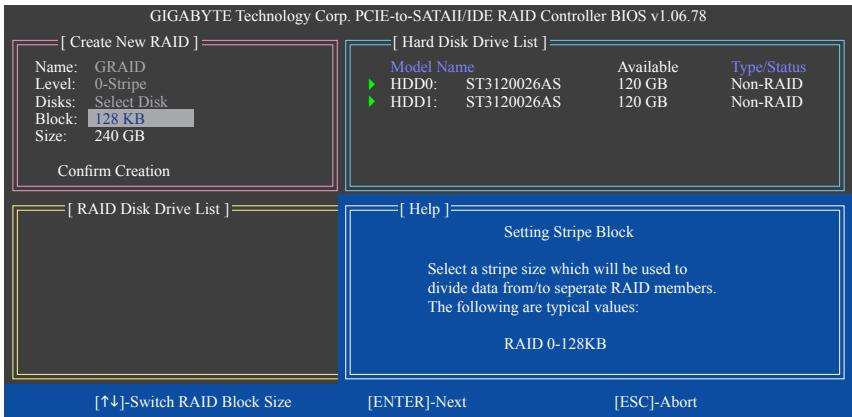

Figure 6
- 4. Set Block Size (RAID 0 only):** Under the **Block** item, use the up or down arrow key to select the stripe block size (Figure 6), ranging from 4 KB to 128 KB. Press <Enter>.